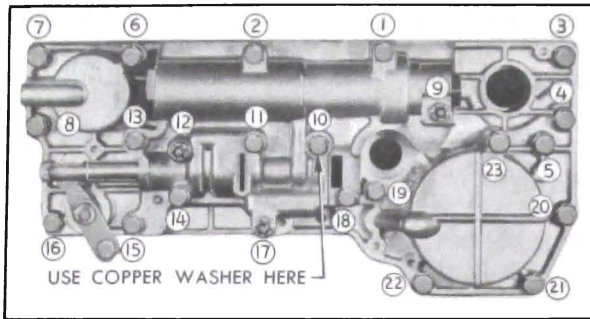

Figure 5-99—Valve and Servo Body Bolt Tightening Sequence
4. Install various length bolts with lockwashers according to depth of holes through valve and servo bodies. *Use copper washer on center bolt adjacent to suction pipe opening.* See figure 5-99.
5. Tighten all bolts to 5 ft. lbs. torque in the numerical sequence shown in figure 5-99. Repeating the same sequence, tighten all $\frac{1}{4}$ " bolts and nuts to 11-15 ft. lbs. torque and all $\frac{5}{16}$ " bolts to 15-20 ft. lbs. While tightening bolts and nuts adjacent to the shift control valve, operate the valve to make certain that it is not binding—it may be necessary to adjust some bolts to low limit on torque to prevent valve binding.